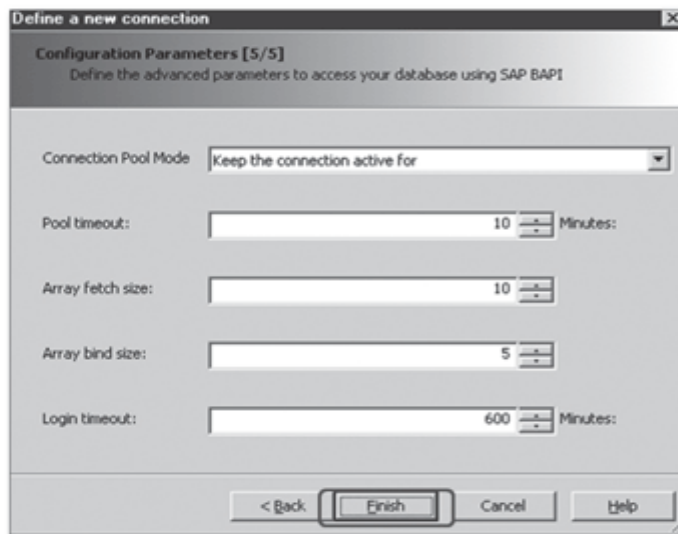

Figure 13.9 Finish the Connection Definition
- The next screen gives you the option to define some advanced parameters for the universe connection (Figure 13.9). For this example, we retain the default values. Click on FINISH to complete the creation of a new connection.